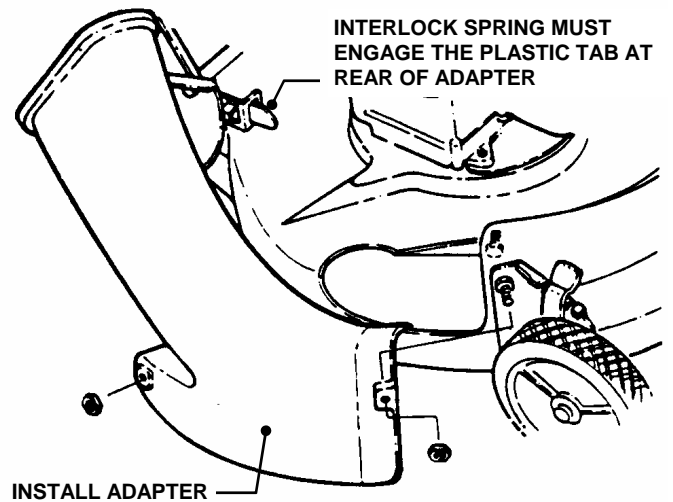

FIGURE 2
STEP 2: Guide the adapter in from the side of the mower deck until the stud located behind the right front wheel protrudes through the raised boss on the front edge of adapter. Secure with hardware, but do not tighten. Position slot at the top of adapter onto stud. Push the lower rear edge of the adapter in over the stud protruding from the rear side of the mower deck and secure with hardware, but do not. Install hardware on the stud on top of deck then securely tighten the retaining nuts at all three points. NOTE: 19" Steel Deck models use wing nuts to secure the adapter. See Figure 2.